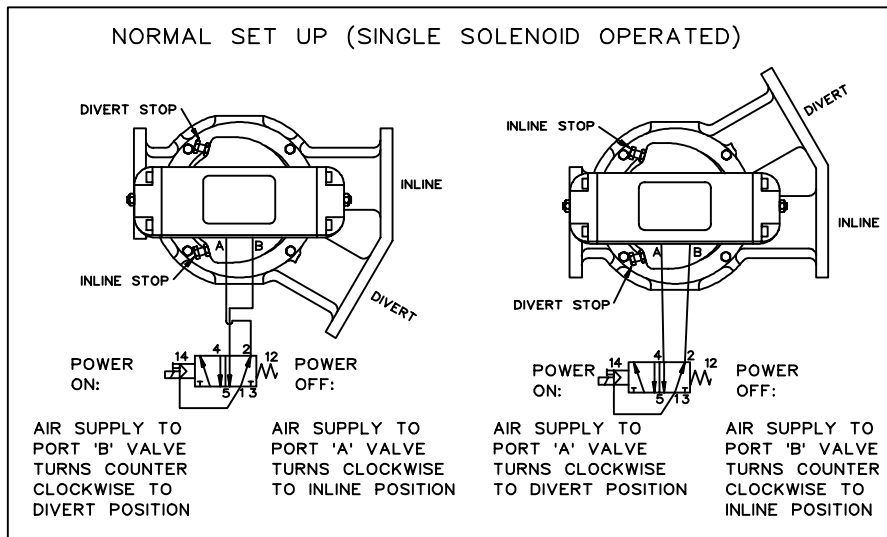

Fig 5
1.4 A single solenoid operated valve is normally connected to the actuator. It is set to allow the plug to return to the in-line position in the event of a power failure. If it is necessary to return to the divert position in the event of a power failure, then the position of solenoid operated valve must be inverted. Refer to fig 5.